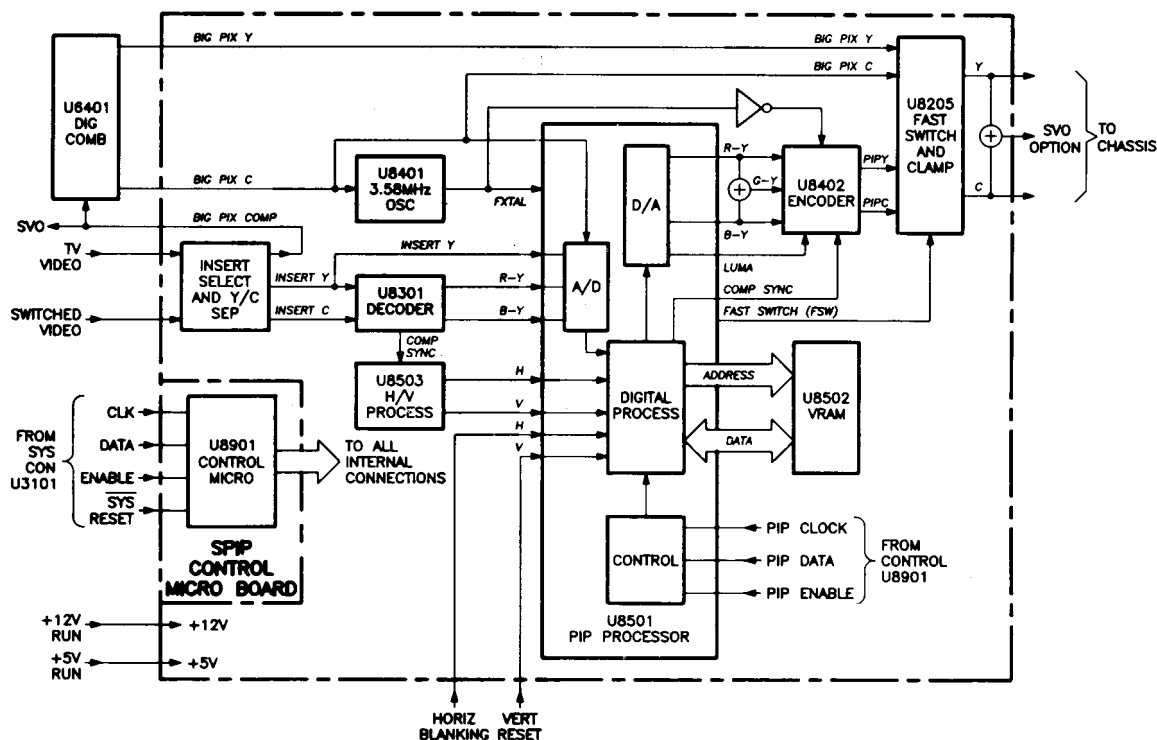

Fig. 8 SPIP Module Block Diagram
3. Having fixed the previous problem, you notice small pix sync instability. Which circuit area would you suspect is causing the problem? (Fig. 8)